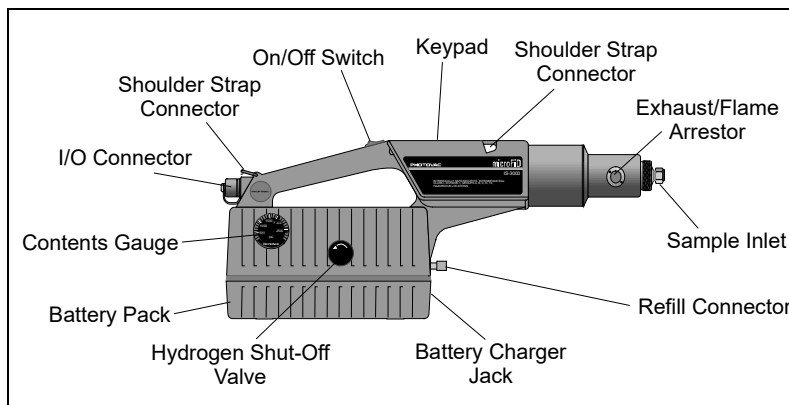

Figure 1 **MicroFID Layout**
1. Stop the flow of hydrogen gas by turning the hydrogen shut-off valve fully clockwise. See *Figure 1*. If the instrument has been turned on, turn it off by pressing the On/Off switch twice.
3. If you selected “Start Flame”, MicroFID will prompt you to start the flow of hydrogen. Turn the shut-off valve counterclockwise to start the flow of hydrogen and press ENTER. See *Figure 1* for the location of the shut-off valve.